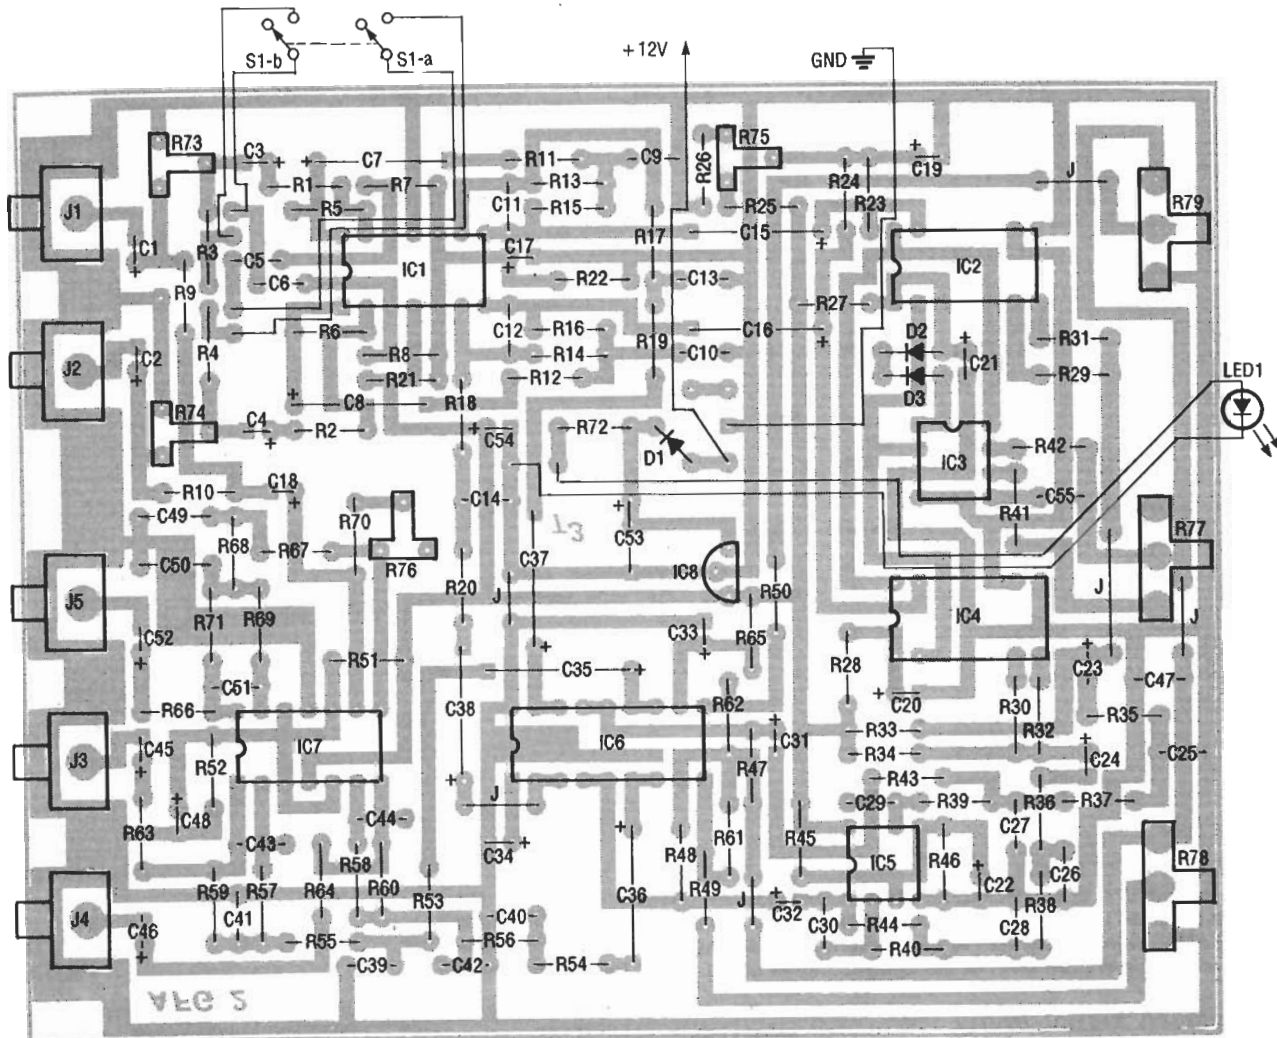
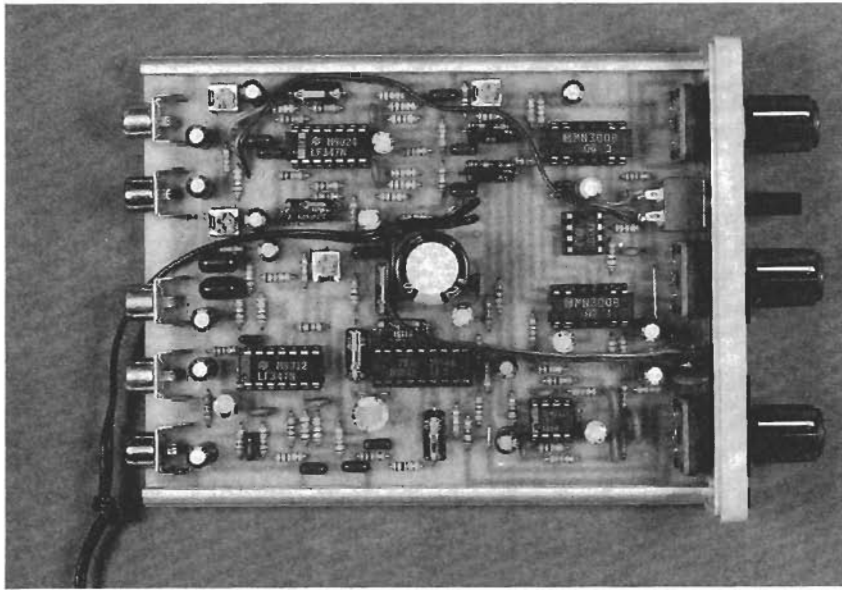

FIG. 7—ABOUT 150 COMPONENTS mount on the AFG II board. Don't forget to install the six jumpers, marked "J," where indicated.
FIG. 8—Inspect the completed board for bridged foil paths and missed solder connections before you slide it into the guide rails of the case.
The AFG II has about 150 electronic components mounted on its circuit board. To avoid errors, work slowly, and double check component values and polarity. Don't try to rush the project and build it in one night. Refer to the parts-placement diagram shown in Fig. 7, and begin construction by inserting the resistors on the circuit board first. Then, using some of the clipped resistor leads, install the six short jumpers (J) where indicated.
larity indicated in Fig. 7. If you will be using the unit in your car, cut an appropriate length of 26 to 28 AWG hook-up wire to run between the AFG II and the power source in your vehicle. Solder the wires to the PC board first, and mark the positive lead for later reference.
All of the IC's in the AFG II are CMOS and, although they are rugged, handle them carefully to avoid ESD damage. If possible, try to keep one hand grounded while handling the IC's. Carefully place each IC in its socket as shown in Fig. 7. Make sure that none of the pins have become folded underneath the body of the IC. Figure 8 shows the inside of the completed prototype.